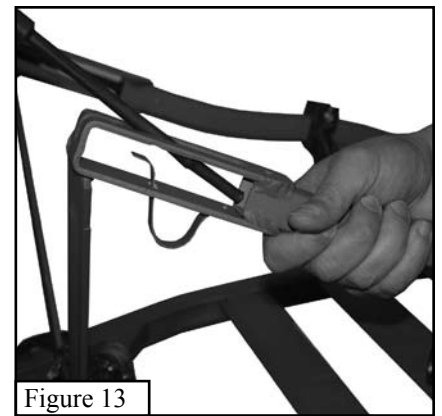

Figure 13
**Step 2.** Take one end of the cable around the tree and begin to slide it down into the tubing as shown in *Figure 13*. Once the cable slides easily into the tubing (it helps to bend the cable upward while pushing down on it as it is inserted), you are ready to place it in its final position.